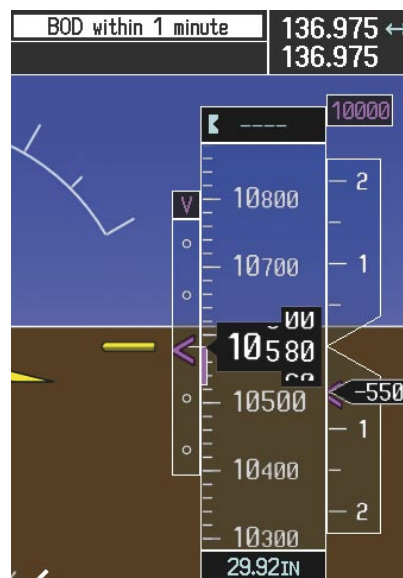

Figure 5-130 Approaching Bottom of Descent (BOD) at OPSHN Offset Waypoint
- 17)** When the aircraft is one minute from the bottom of descent (BOD) it is annunciated as shown in Figure 5-130. Upon reaching the offset waypoint for OPSHN, the aircraft is at 10,000 feet.